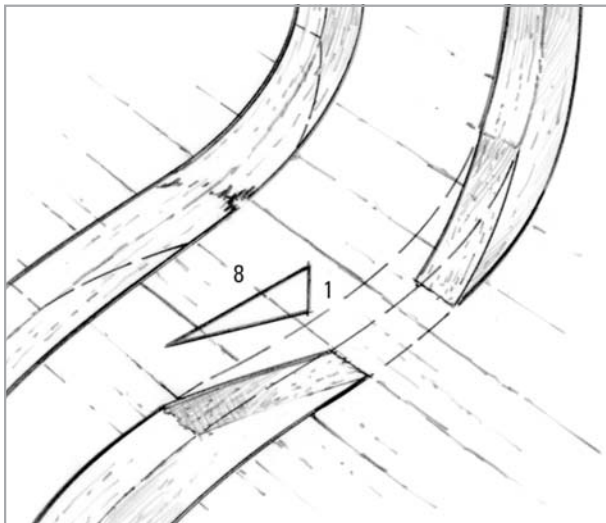

Figure 4-4 Cut out all of the damaged area, leaving at least an 8-to-1 bevel on the ends of the damaged frame.
1. Cut out the damaged section of the existing frame. Trim the exposed ends to a minimum 8-to-1 scarf angle (Figure 4-4). The longer the scarf angle, the stronger the joint. When repairing hardwood or highly loaded frames, use a longer (12-to-1) scarf angle.